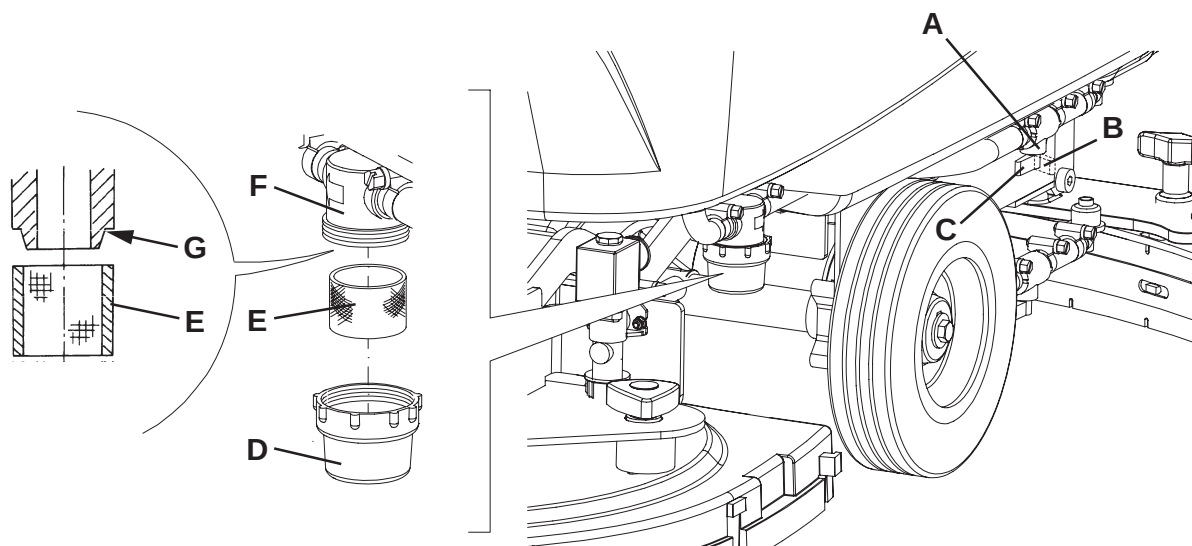

Figure 5
2. Press the switch (71) and/or (73) to turn the machine off.
3. Close the solution tap (A, Fig. 5) under the machine, behind the right rear wheel. The tap (A) is closed when it is on the position (B) and it is open when it is on the position (C).
4. Remove the transparent cover (D), then remove the filter strainer (E). Clean and install them on the support (F).